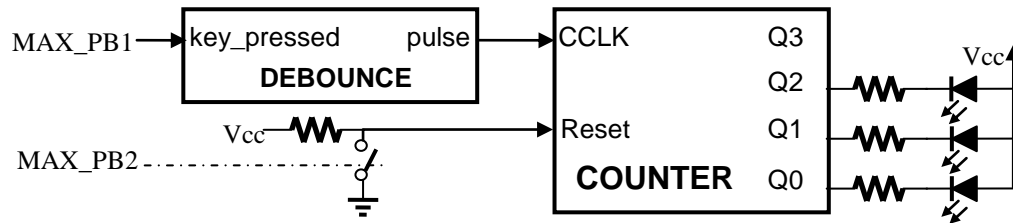

Fig. 2. COUNTER test circuit
- II-2. *Manual control* - by deriving CCLK from a push-button (MAX_PB1) and displaying the flip-flops' outputs on LEDs as shown below (block diagram of Fig. 2).
- For this mode you have to derive the counter's clock CCLK from a push-button (MAX_PB1) and displaying the flip-flops' outputs on LEDs as shown below (block diagram of Fig. 2).
2. Now you can create another test circuit for the counter (as was shown in Fig. 2) with the *Quartus graphic editor (test.bdf)*. Save the file and set the project to the current file with **Set as Top Level Entity**. The *counter* and *debounce Symbols* created above can be inserted into your schematics by going **Edit >> Insert Symbol** and looking for them in the **Project** directory of the **Symbol Libraries**. The clock input of the debouncer (*clk*) has to be connected to the system clock (GCLK1 - from the on-board oscillator of 25.175 MHz) that is directly connected to the *FPGA PIN 1* through the PCB (do not connect any extra wire to this pin!!!). The "*key_pressed*" input of the debounce module is connected to the on-board pushbutton MAX_PB1. "*pulse*" is the debounced output that is used as a clock for the counter (CCLK). Remember to compile your file before assigning the pins!
3. Note that a LED is illuminated when current goes through it, i.e., when logic 0 is applied to the female header associated with the LED (Fig. 2). As we want to have an illuminated LED when the counter's corresponding output is High, the flip-flops' outputs should be inverted before sending them to LEDs.